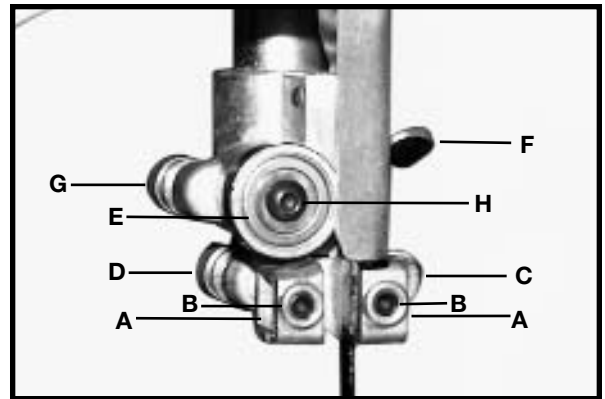

Fig. 28
4. Adjust the guides (A) Fig. 28, so that the front edge of the guides are just behind the "gullets" of the saw teeth. The complete guide block bracket can be moved in or out by loosening the thumb screw (C) and turning the knurled knob (D) Fig. 28. When the guides (A) are set properly, tighten thumb screw (C).
5. Two set screws (B) Fig. 28 hold the upper blade guides (A) in place. Loosen the set screws (B) to move the guides (A). Place them as close as possible to the side of the blade. (Be careful not to pinch the blade). Tighten the screws (B).
6. The upper blade support bearing (E) Fig. 28 prevents damage to the set in the saw teeth by keeping the blade from being pushed too far toward the back. The support bearing (E) should be set 1/64" behind the blade by loosening the thumb screw (F) and turning the knurled knob (G) to move the support bearing (E) in or out.
7. Adjust the blade support bearing (E) so that the back edge of the blade overlaps the outside diameter of the ball bearing by about 1/16". The bearing (E) is set on an eccentric. To change the position, remove the screw (H) and bearing (E) Fig. 28. Loosen the thumb screw (F), back out the knurled knob from the set screw. Remove the hex shaft from the hole, and rotate it to move the eccentric for the bearing.
8. When the blade guide wears to a point that it cannot be adjusted close to the blade, loosen screw (B) Fig. 28 and reverse the blade guides (A) Fig. 28.